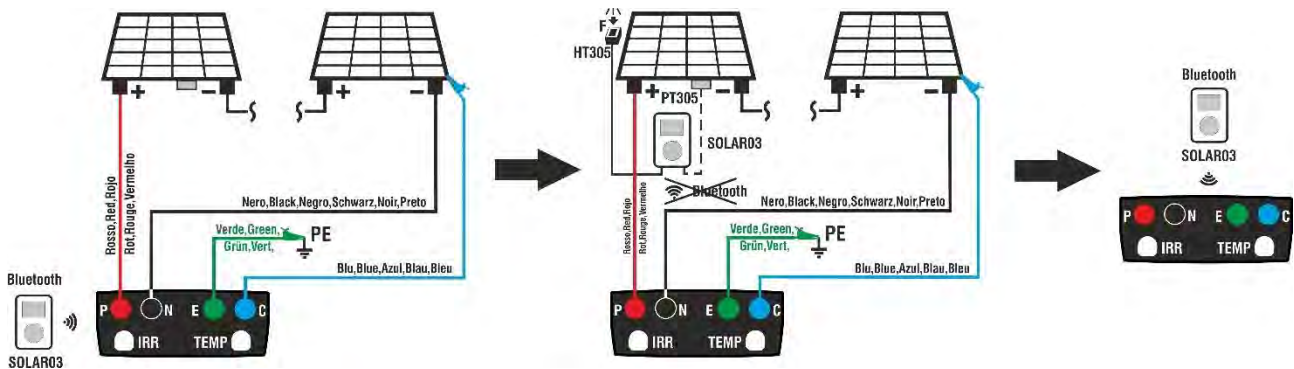
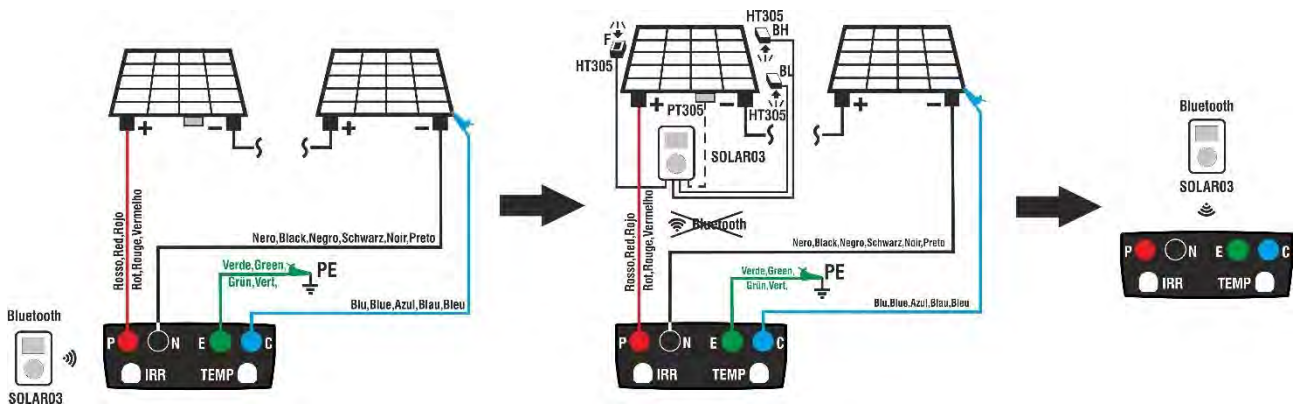

Fig. 14: Connection of SOLAR03 in recording on Monofacial PV modules
Fig. 15: Connection of SOLAR03 in recording on Bifacial PV modules
2. Connect the instrument to the PV module/string being tested and to the main earth node of the system, and to the metal masses connected to earth as shown in Fig. 14 (Mono-facial modules) or Fig. 15 (Bifacial modules) In detail:
- **In case of Bifacial modules** → position the **3 reference cells HT305** respectively onto the front surface of module (**F**), onto the back top part (**BH=BackHigh**) and onto the back bottom part (**BL=BackLow**) of the module. Connect the front reference cell (F) to input "**INP1**", BH reference cell to input "**INP2**", BL reference cell to input "**INP3**" and **possibly** the temperature probe **PT305** to input "**INP4**" of the remote unit. In accordance with the IEC/EN60904-1-2 standard, the instrument calculates the equivalent front-side Irradiance (**Irreq**) value, which corresponds to the Irradiance on the front surface only, which produces the same effects as the Irradiance measured on both sides, considering the **bifaciality factor** (φ) of the module according to the following relationship:
4. Move the SOLAR03 remote unit close to the instrument as shown in Fig. 14 or Fig. 15 – left side part
7. Move the remote unit close the modules and connect the irradiance/temperature probes as shown Fig. 14 or Fig. 15 – middle side part. **Since recording has already been activated on remote unit SOLAR03, it is not necessary to maintain the Bluetooth connection anymore.** Maintaining the connection (if possible) will only allow to immediately obtain the outcome of the test without waiting for the measuring campaign to be completed.